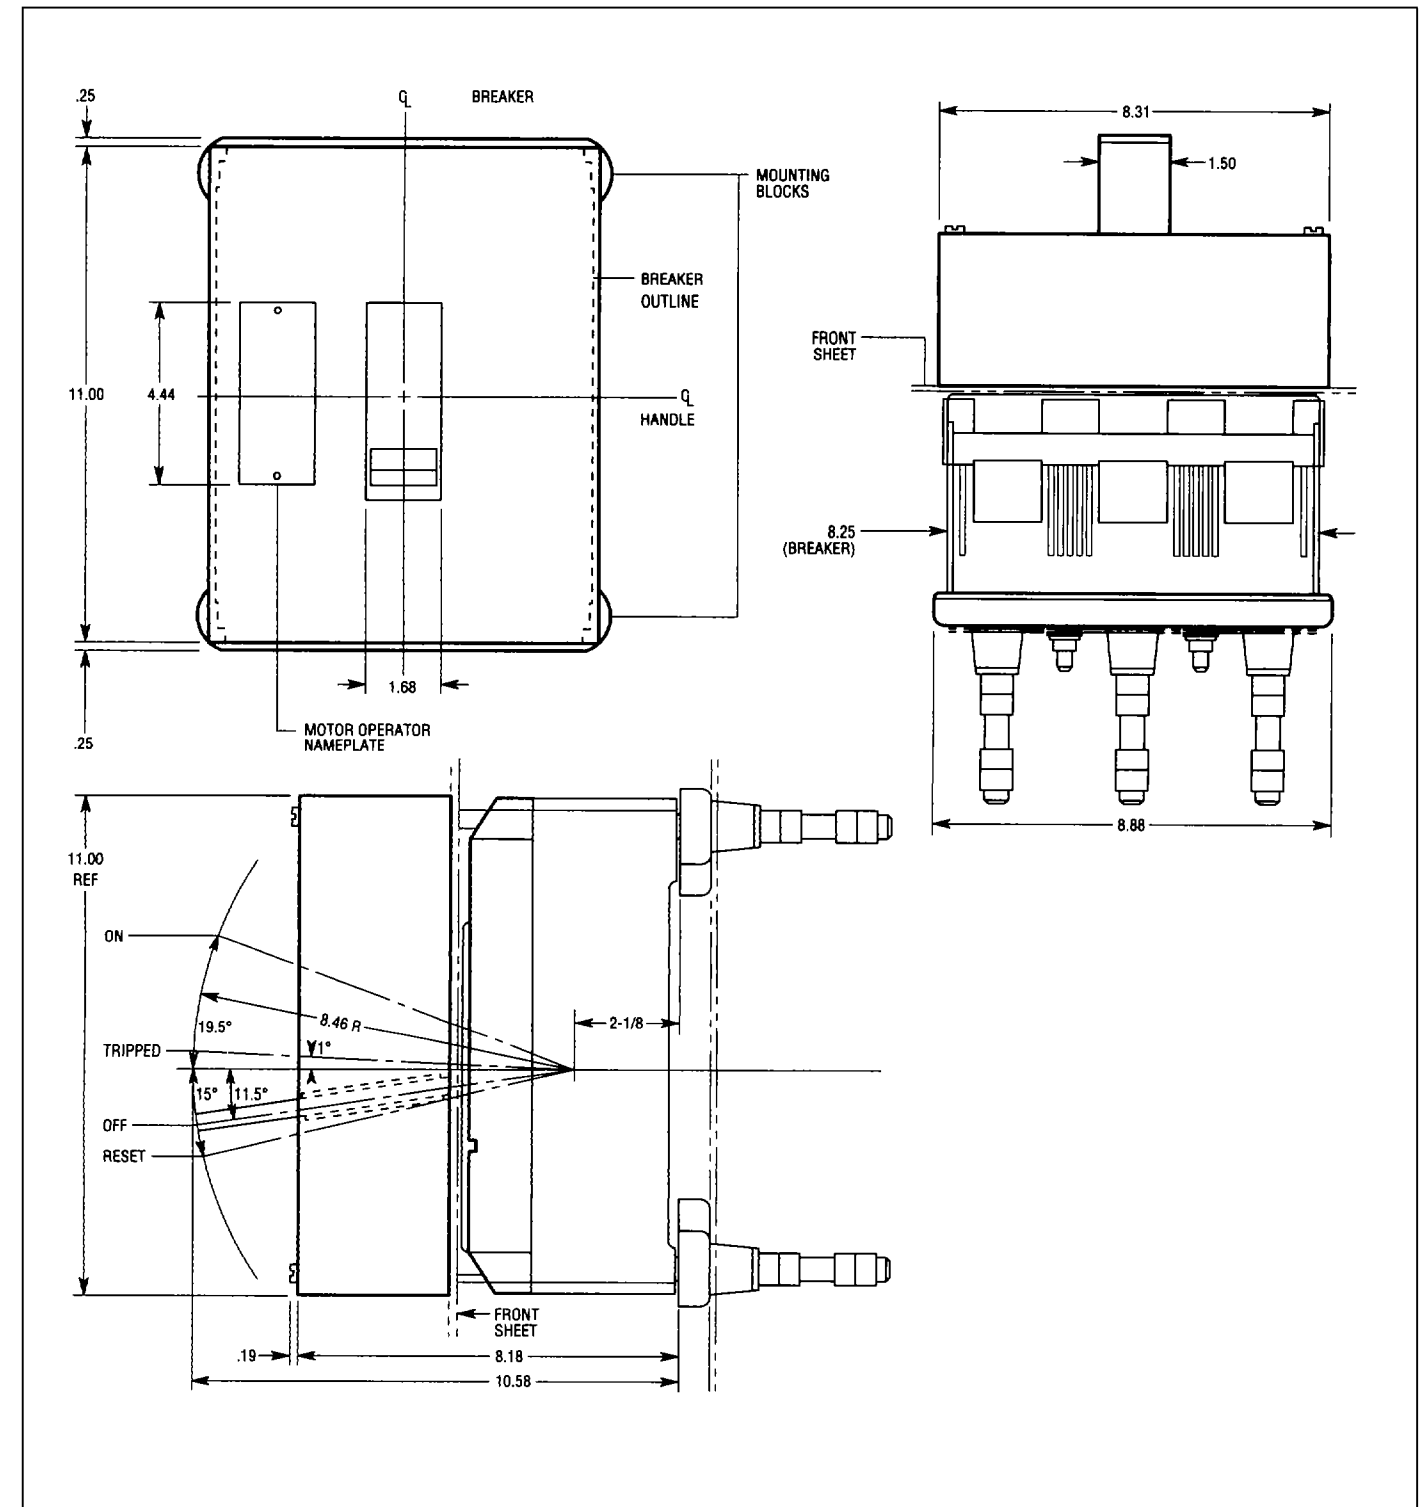

Fig. 2-4. AQB-A250 or NQB-A250 Circuit Breaker and Motor Operator Outline Dimensions
- n. Refer to Figure 2-4 for circuit breaker and motor operator combination outline dimensions.